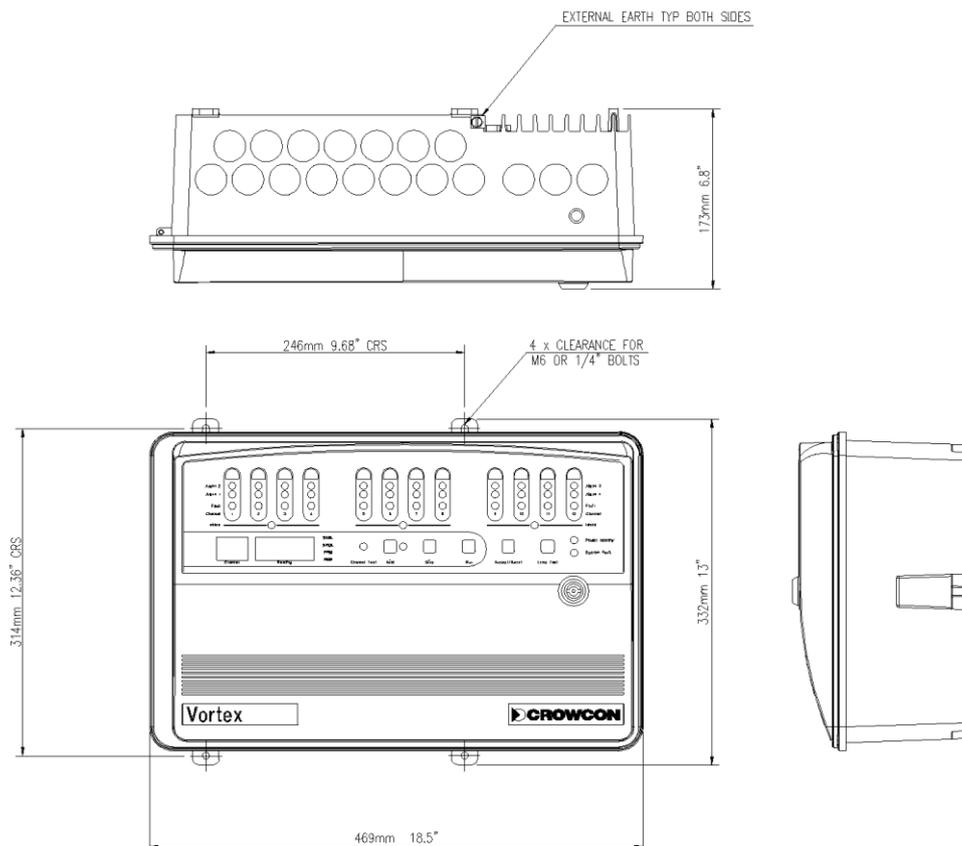

Figure 2: Vortex system in Standard Enclosure
4. Place the enclosure or cabinet in its working position. Consider issues of location, cabling, and earthing discussed in sections 3.6 and 5.2 and Appendix F. The standard enclosure is supported on screws through the two top lugs, and held against the wall with the two bottom lugs. (see Figure 2)